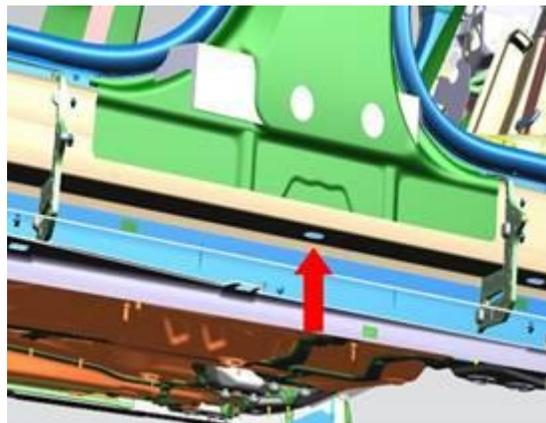

Figure 2. Water entrance point.
2. Figure 2 shows the opening where water generally enters this space.